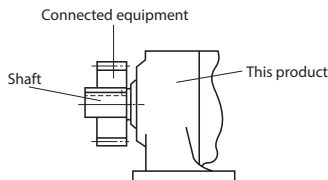
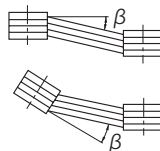

Figure 5-3
Figure 5-4
(2) When using chains, sprockets, or gears
- The working load point of the sprocket or gear should go from the center of the shaft to this product. (See Figure 5-3)
(3) When using a V belt
- The parallelism, eccentricity β of the two pulleys should be within $20'$. (See Figure 5-4)